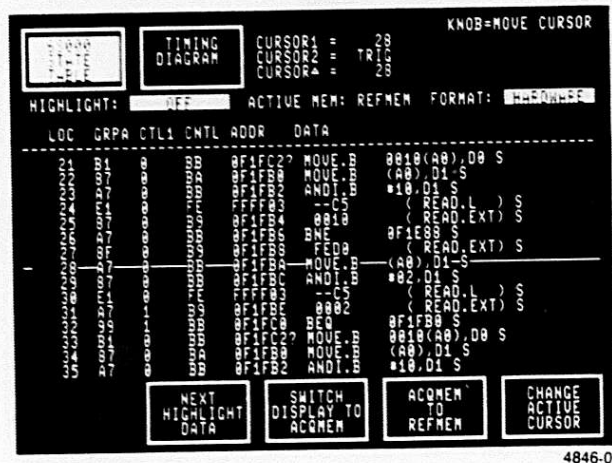

Figure 6. HARDWARE format shows instruction mnemonics.
**HARDWARE.** In this format, instruction mnemonics are displayed in the DATA group on FETCH cycles, and cycle type information is provided on all other cycles. The mnemonics for cycles which may have been flushed are preceded by a question mark. Look at Figure 6.